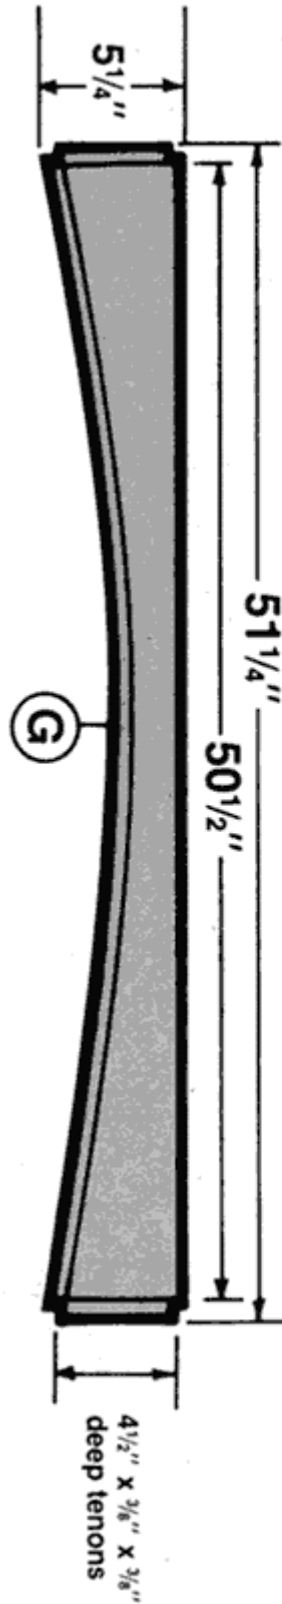

Figure 7
9: Cut the 4-1/2" x 3/8" x 3/8" tenons in the Facings (G), as shown in **Fig. 7.**
11: Use your Band saw, Scroll Saw or a hand-held sabre saw to cut out the curves in the bottom of the long Facings, as shown in **Fig 7.**